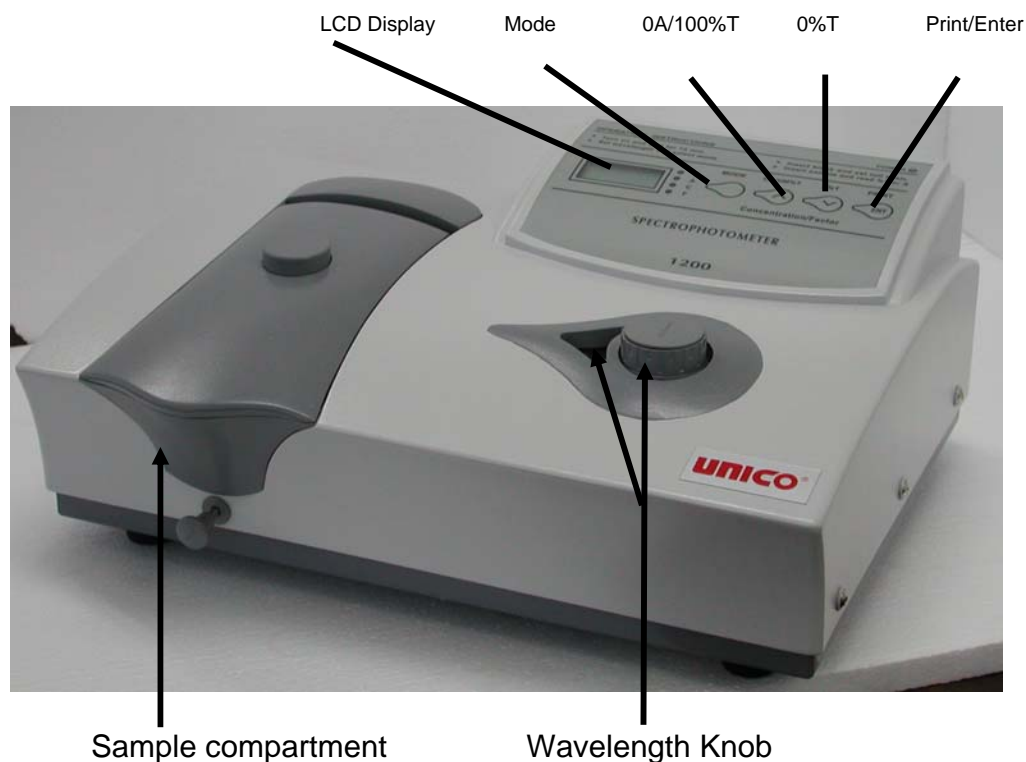

Figure-3 UNICO® 1200 Spectrophotometer
**Mode Indicator:** Show the current measurement mode (**T**--%Transmittance, **A**--Absorbance, **C**--Concentration, and **F**--Factor) (refer to Figure-3).